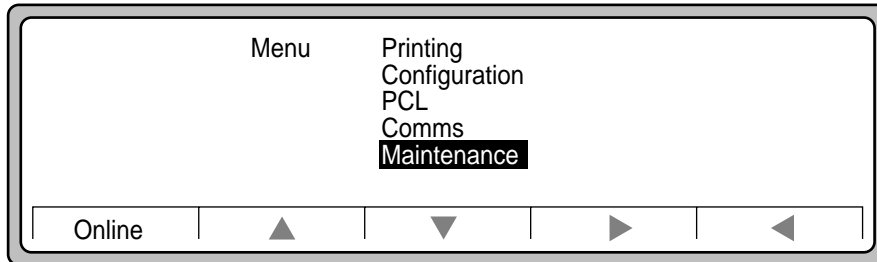

Figure 4-9 Maintenance
- Use ▼ to highlight Maintenance, as shown in Figure 4-9.